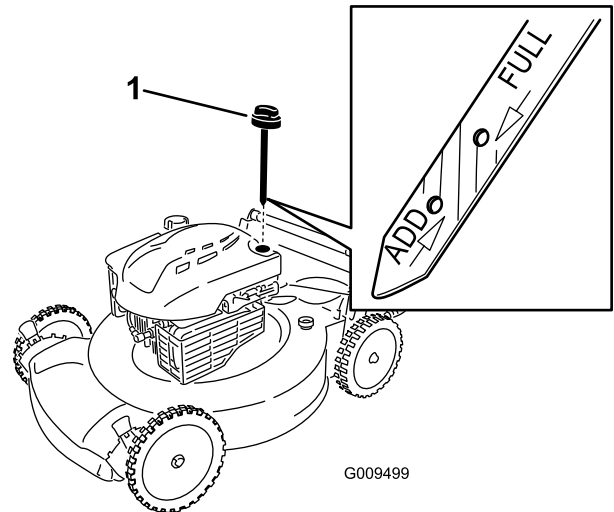

Figure 4
2. Remove the dipstick by rotating the cap counterclockwise and pulling it out (Figure 4).
Note: If the oil level is below the **Add** mark on the dipstick, **slowly** pour a small amount of oil into the oil fill tube and repeat steps 3 through 5 until the oil level is at the **Full** mark on the dipstick (Figure 4).